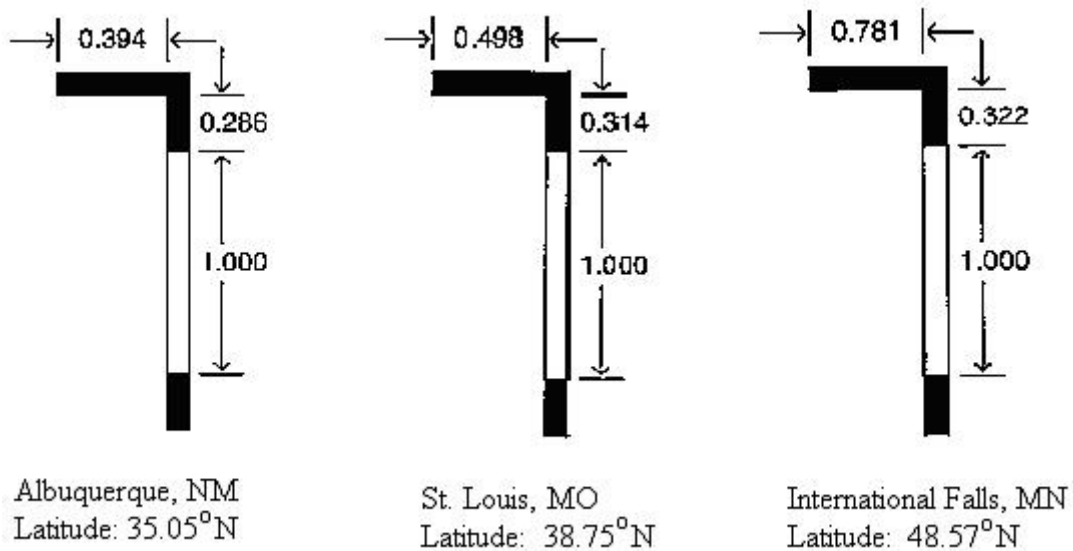

Figure 2. Roof Overhang Recommendations from NREL Publication
data useful for passive solar heating for 239 locations in the United States and its territories. One of the items of information it contains is recommended roof overhang dimensions to provide summertime shading and wintertime sunlight for south-facing windows at each of the 239 locations. Three examples from *Solar Radiation Data Manual for Buildings*, are given in Figure 2. The recommended overhang dimensions are shown for Albuquerque, NM (latitude: 35.05° N), St. Louis, MO (latitude: 38.75° N) and International Falls, MN (48.57° N). As shown in the diagram, as one goes farther north, the sun is lower in the sky, and the recommended overhang is greater.
**Solution:** As shown in figure 2 above (The Albuquerque, NM portion is from page 148 in *Solar Radiation Data Manual for Buildings*), the distance of the top of the window below the overhang should be 0.286 times the vertical height of the